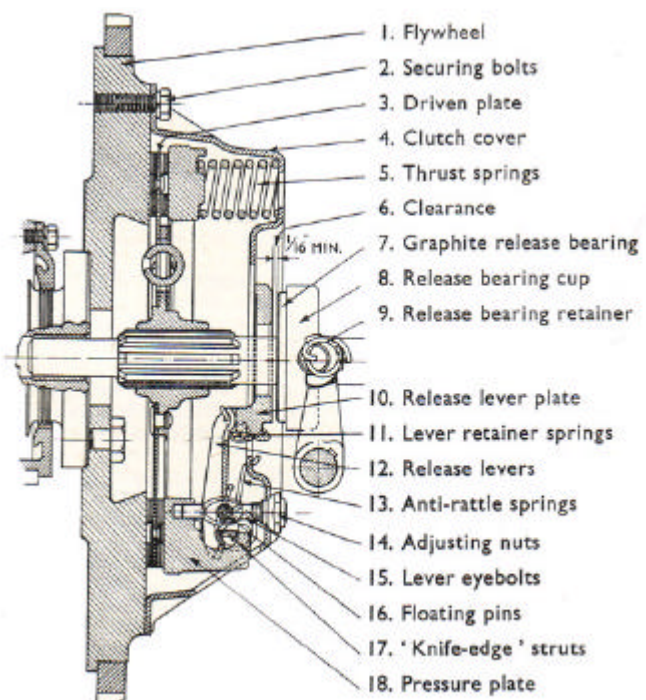

Fig. 2. The clutch in section.
adjusting of the outer cable length to give the correct flexibility between the pedal box and the floating engine. The adjusting nuts, item 14 (see Fig. 2), should not be altered unless the clutch has been dismantled and new parts fitted.
The following parts (marked with their numbers in Fig. 2), cover 4', pressure plate lugs '18' and release levers '12' should be marked in such a manner as to ensure their reassembly in the same relative positions to each other in order to preserve balance and adjustment.